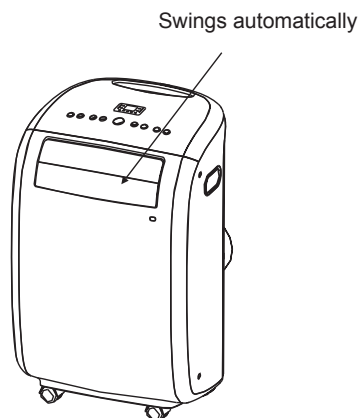

Fig. 4
- Adjust the air flow direction automatically (Fig.4):